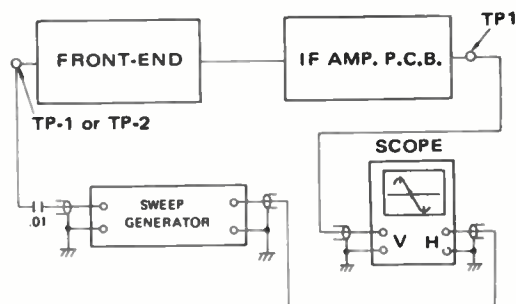

FIGURE 3. IF SECTION ALIGNMENT TEST EQPT. HOOK UP
- Step 1: Connect the instruments as shown in Figure 3.